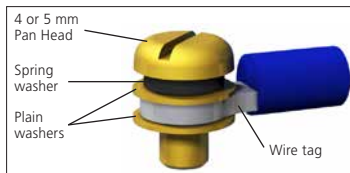

Fig. 7.5.1
**⚠ To ensure secure electrical connections, it is important that the requisite washers are used as shown in Figure 7.5.1. Failure to do so may result in connections working loose or screws not clamping down on wire termination tags. Spring washers must be compressed. Screw tightening torques must not exceed 1.5 Nm (1.1 lbf.ft)**